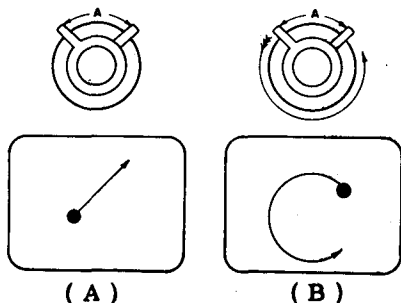

Fig. 21 — CBS-Columbia
**Adjustment of magnetic centering rings (see Fig. 21).**